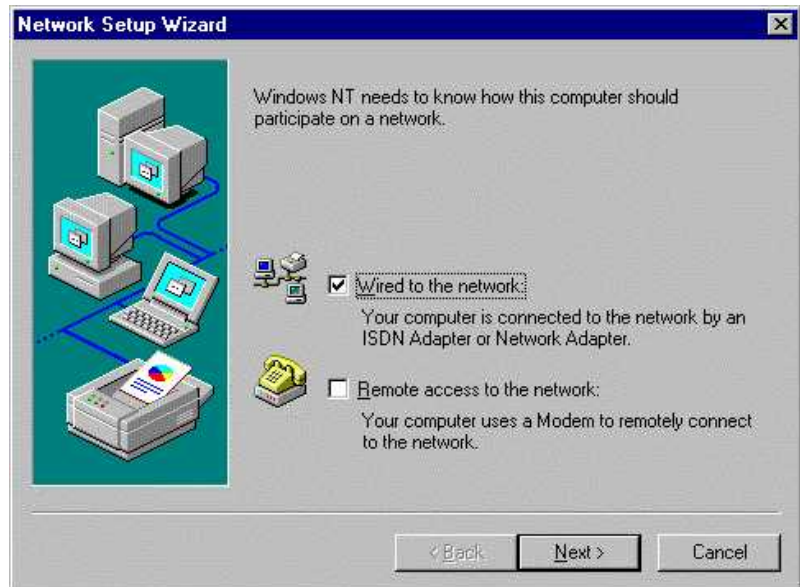

Fig. 8-3 Network Setup Wizard
- ▶ Select "Wired to the network" for a direct connection to the network (Fig. 8-3).